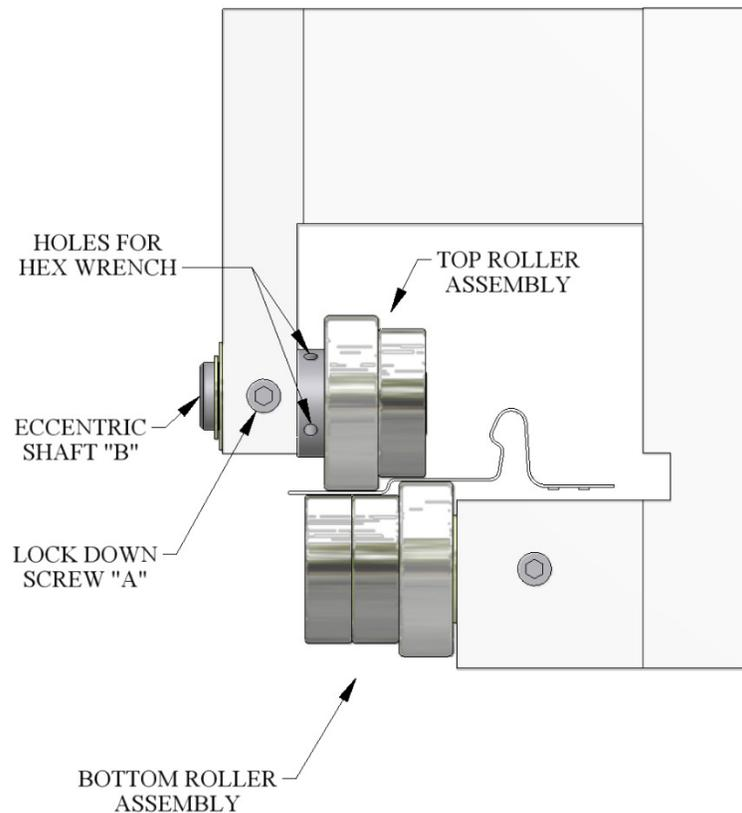

Figure 41: Clip Relief Roller Assembly
1. Clip Relief Rollers (Figure 41) provide a raised area next to the male and female legs of the panel. This helps hide the clip and screws used in installation. They rollers can be engaged or disengaged as needed.